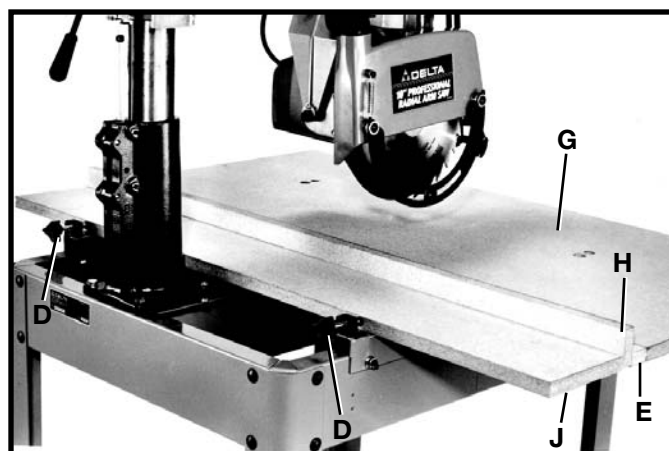

Fig. 31
3. Place 1-1/4" wide board (E) Fig. 31, against front table board (G), 1-3/4" wide board (H) in the upright position against 1-1/4" board, and 5-3/4" wide board (J) against 1-3/4" wide board as shown. Then tighten knobs (D), until the table boards are securely clamped in position.